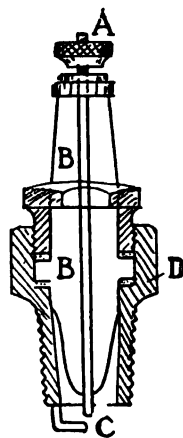

Fig. 4
This system consists of four essential parts: the *batteries* or *magneto* to furnish the current, the *spark-coil*, the *spark-plug*, and the *timer*. The spark-plug of the jump-spark system (Fig. 4) is a device consisting of a terminal (A) passing through a porcelain or mica core (B), and ending in an isolated point (C). The core is surrounded at its lower end with a collar, or bushing, of metal (D), which screws into the cylinder with the terminal C projecting inside.